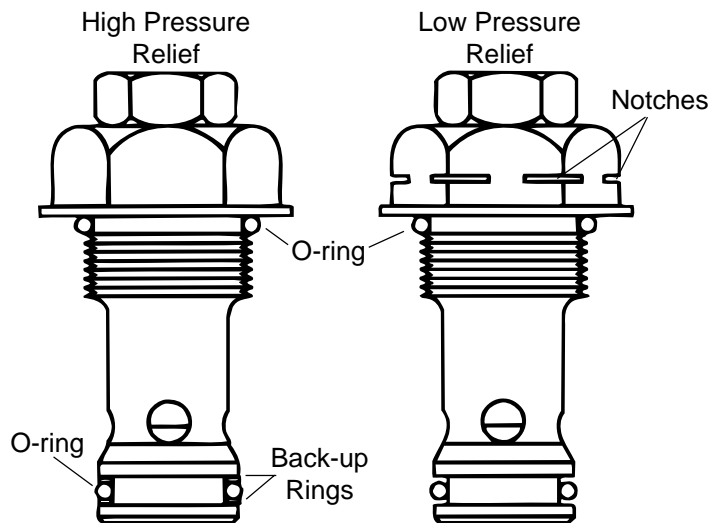

Figure 11
**Note:** The low pressure relief valve can be identified by the notches machined into its large hex head, see figure 11.
Install back-up rings around the small o-rings on the high pressure relief valves, see figure 11.